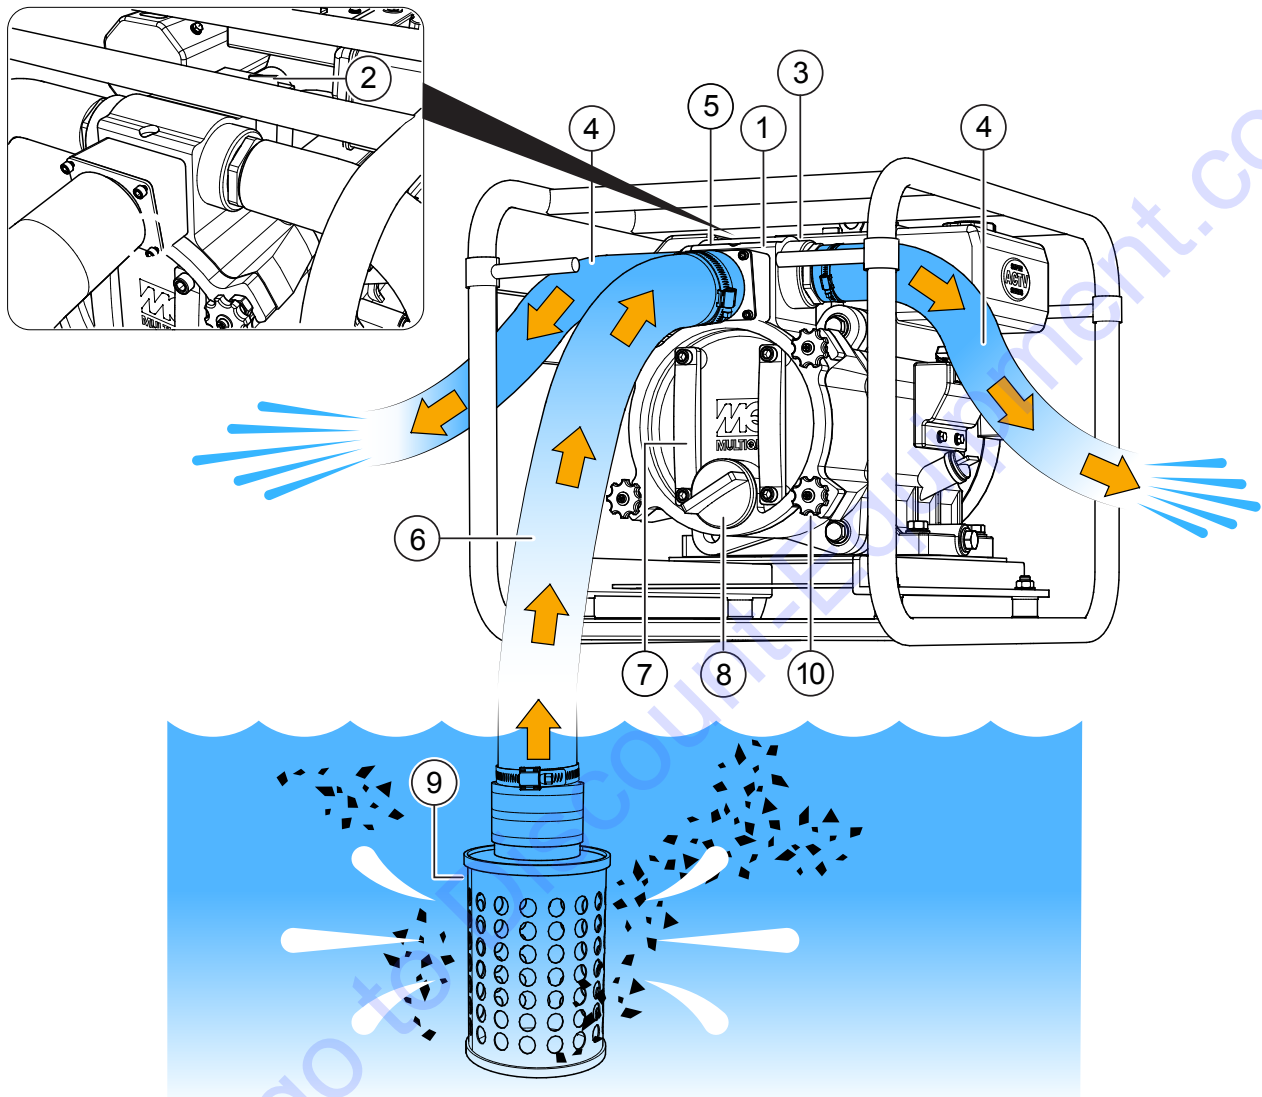

Figure 3. QP4TK Key Component Callouts
Figure 3 shows key component areas of the QP4TK.
3. Initially prime the pump by removing the fill cap (see Figure 3) and filling the casing with water. If the pump casing is not filled with water prior to operations, it will not be able to start the pumping process and you risk overheating the mechanical seal assembly.